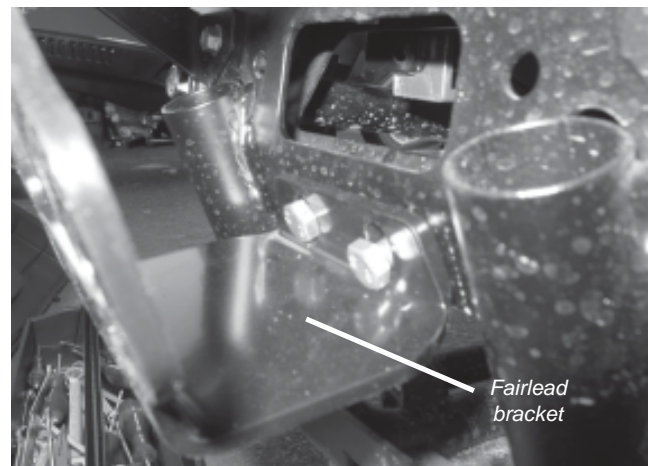

Figure 5
6. Attach the lower flange of the fairlead bracket, see figure 5. Use 8mm hex bolts, flat washers and hex flange nuts.